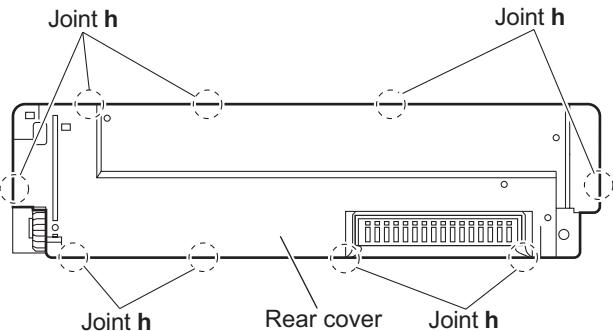

Fig.11
- (2) Release the nine joints **h**, and take out the rear cover. (See Fig.11)